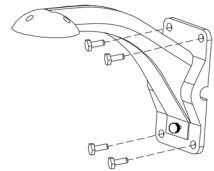

Figure 7
- 4) Fix the bracket on the wall (Figure7).